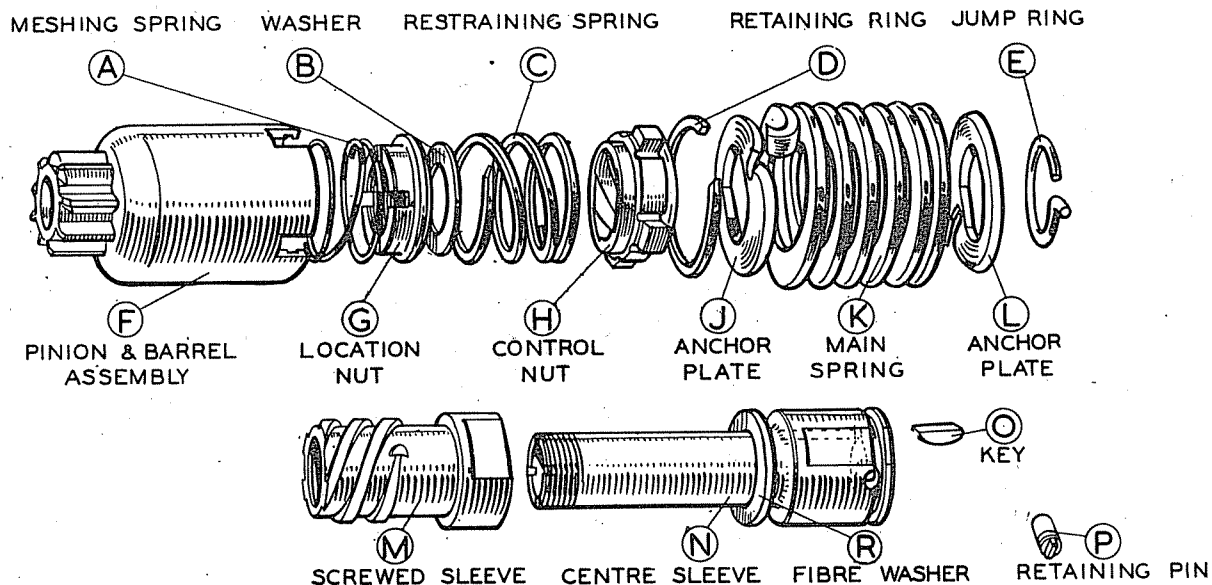

Fig. 30—Starter Drive — Dismantled View.
19. DISMANTLING AND RE-ASSEMBLY (Refer to Figure 30).